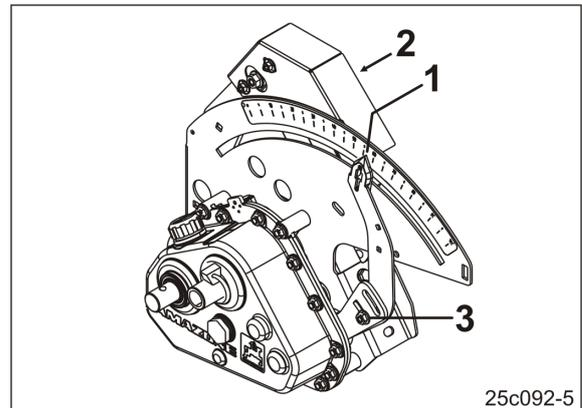

Fig. 25
2. Press and hold the  button until the pointer (Fig. 25/1) is set to the scale value "0" and the yellow LED (Fig. 25/2) lights up.
3. If necessary, unscrew the lever (Fig. 25/3) until the pointer is set to "0" and the yellow LED lights up.